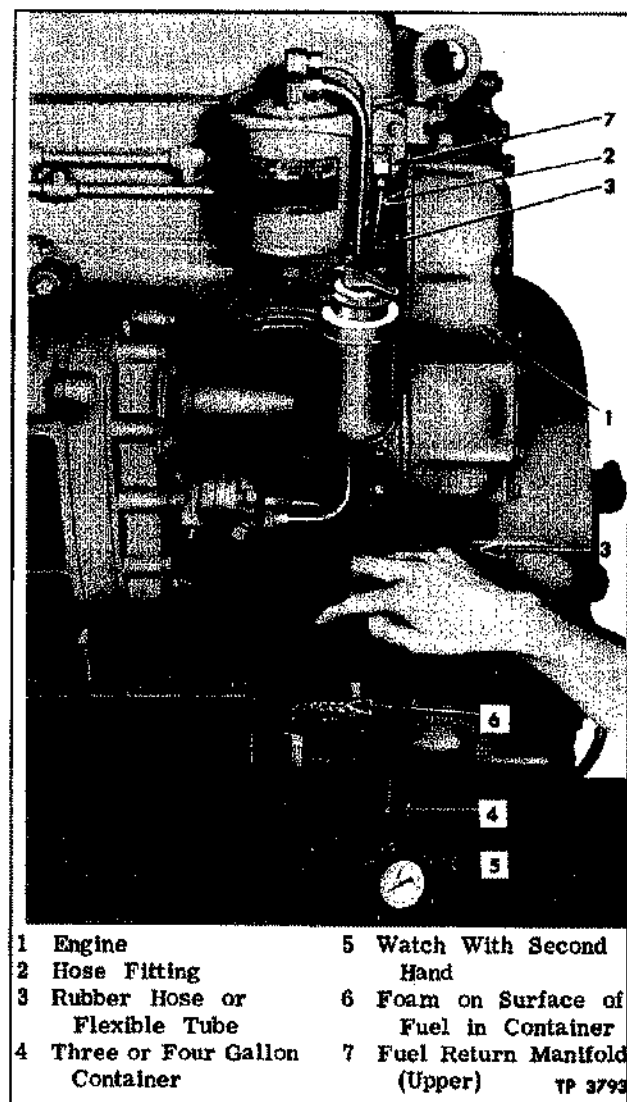

Figure 25—Measuring Fuel and Checking Air in Fuel System
1. After connecting one end of rubber hose or flexible tube to fuel return (upper) manifold and immersing other end in a large container as illustrated in figure 25, start engine and run at 1200 engine rpm. Measure fuel being returned from manifold, which should be approximately one-half gallon per minute; also observe if air is being pumped through fuel system as will be indicated by air bubbles appearing as foam on fuel in container.
3. Stop engine and remove element from primary fuel oil filter and again run flow test as in (1). An increased flow of fuel with filter element removed indicates proportionate clogging of element. In such cases element should be cleaned.